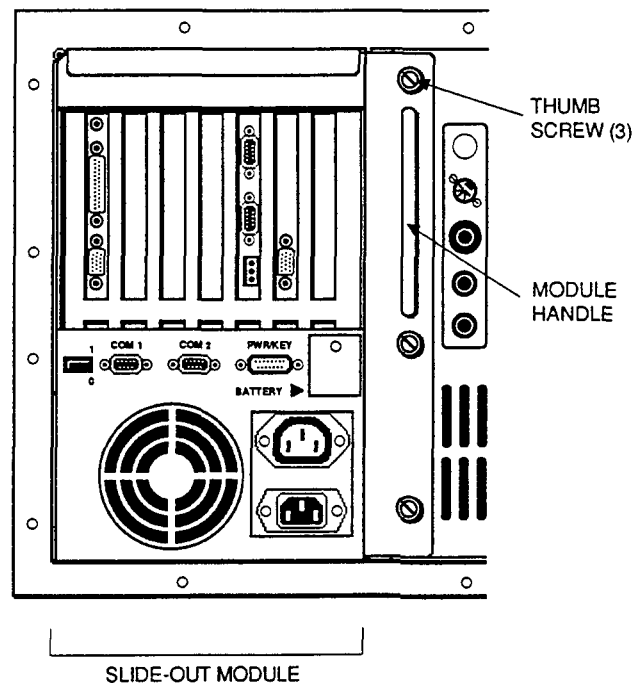

Figure 2-5. Removing the Slide-Out Computer Module
3. Tighten the three thumb screws removed earlier (see Figure 2-5).
5. Place the 9450-SSW CPU card into slot 0 in the passive backplane. Push the card $\frac{3}{4}$ of the way down. Figure 2-5 shows slot 0.